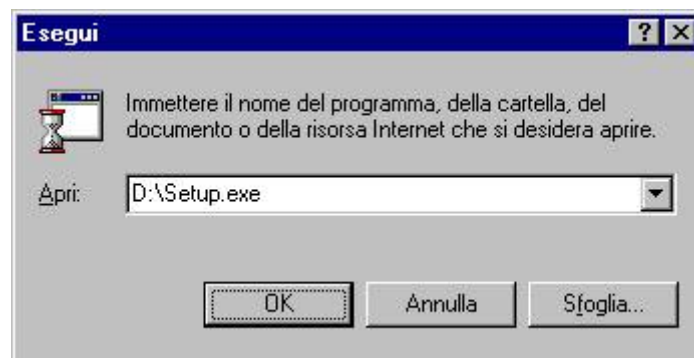

Figure 1 – Start installation
- Digit **D:\Setup.exe** in the text box or thumb the CD ROM (See Figure 1)